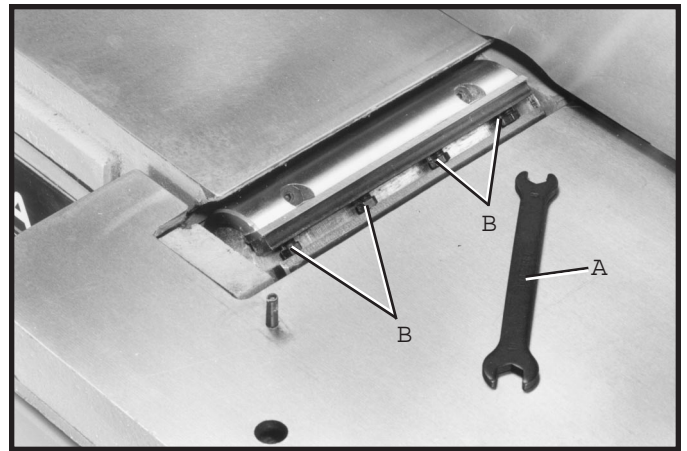
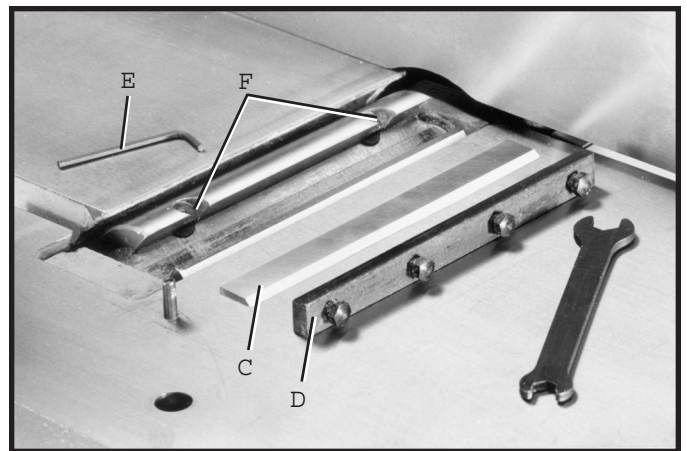
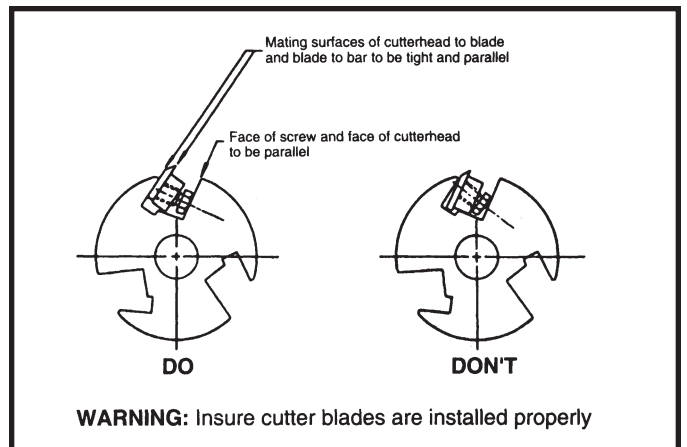

Fig. 50
Fig. 51
Fig. 52
3 Using wrench (A) Fig. 50, slightly loosen the four locking screws (B) in each knife slot by turning the screws (B) clockwise. This relieves stress in the cutterhead.
4 Loosen screws (B) Fig. 50, further and remove knife and knife locking bar.
5 Fig. 51, illustrates the knife (C) and knife locking bar (D) removed from the cutterhead. Remove the remaining two knives and locking bars, in the same manner.
6 Using wrench (E) Fig. 51, lower the two knife adjustment blocks by turning screws (F) counterclockwise in all three slots of the cutterhead.
8 Replace the knife locking bars (D) Fig. 51, and knives (C) into each slot in the cutterhead. **WARNING: CARE MUST BE TAKEN WHEN INSERTING THE KNIVES AS THE CUTTING EDGES ARE VERY SHARP.** Push the knife down as far as possible and snug up the screws (B) Fig. 50, by turning each screw counterclockwise just enough to hold the knife in position. Replace the remaining two knives in the same manner. **NOTE: KNIVES MUST BE INSTALLED CORRECTLY AS SHOWN IN FIG. 52.**